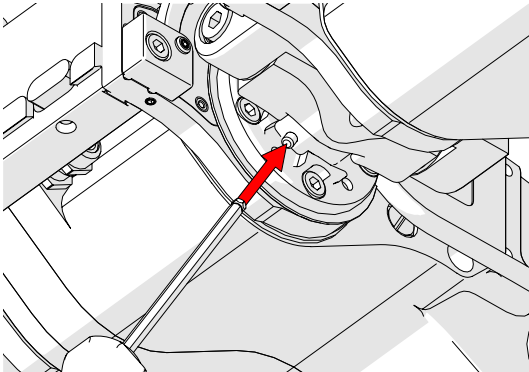
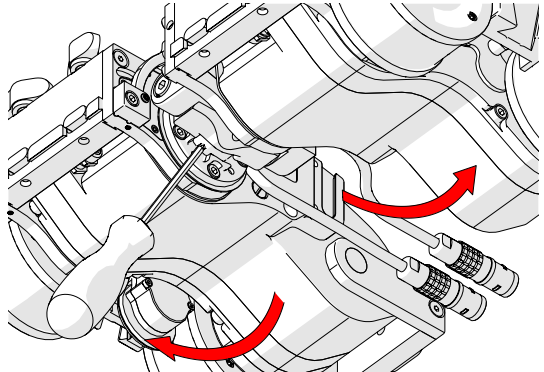

Fig. 135 - Press release pin
Fig. 136 - Press pin and rotate modules
1. Locate the release pin at the bottom of the **NAVIC** (Fig. 135). Using the supplied 3 mm hex driver, press the pin while rotating the two modules (Fig. 136).